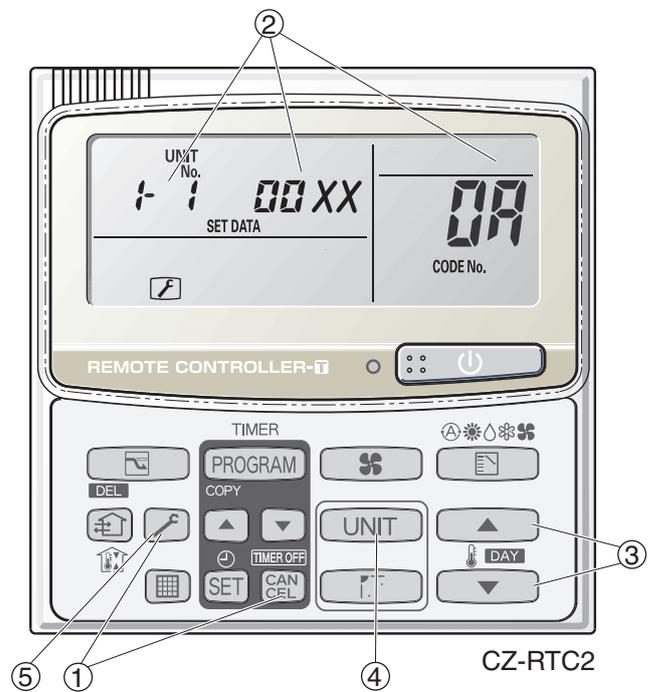

Fig. 7-4
- ① Press and hold the  and  buttons simultaneously for 4 seconds or longer.
- ② The unit No. "X-X" (main unit No.), item code "XX" (sensor address), and servicing monitor "00XX" (sensor temperature) are displayed on the remote controller LCD display. (See Fig. 7-4 at right.)
- ③ Press the temperature setting   buttons and select the item code to the address of the sensor to monitor.